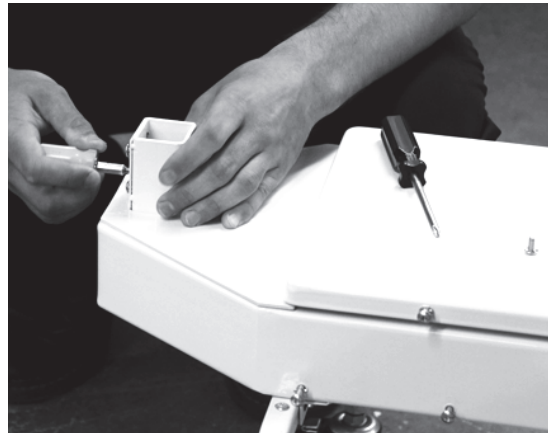

Figure 2-4. Remove Screws from Scale Base
3. Remove the eight screws from the scale base and retain for installation. See Figure 2-4.